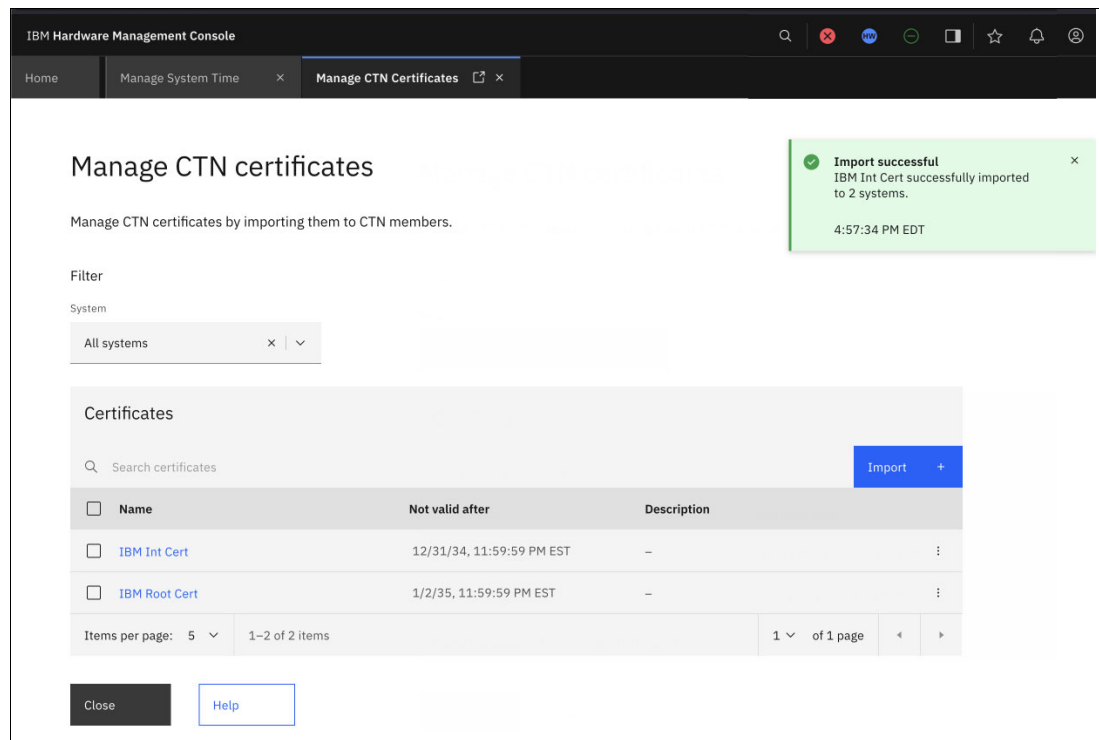
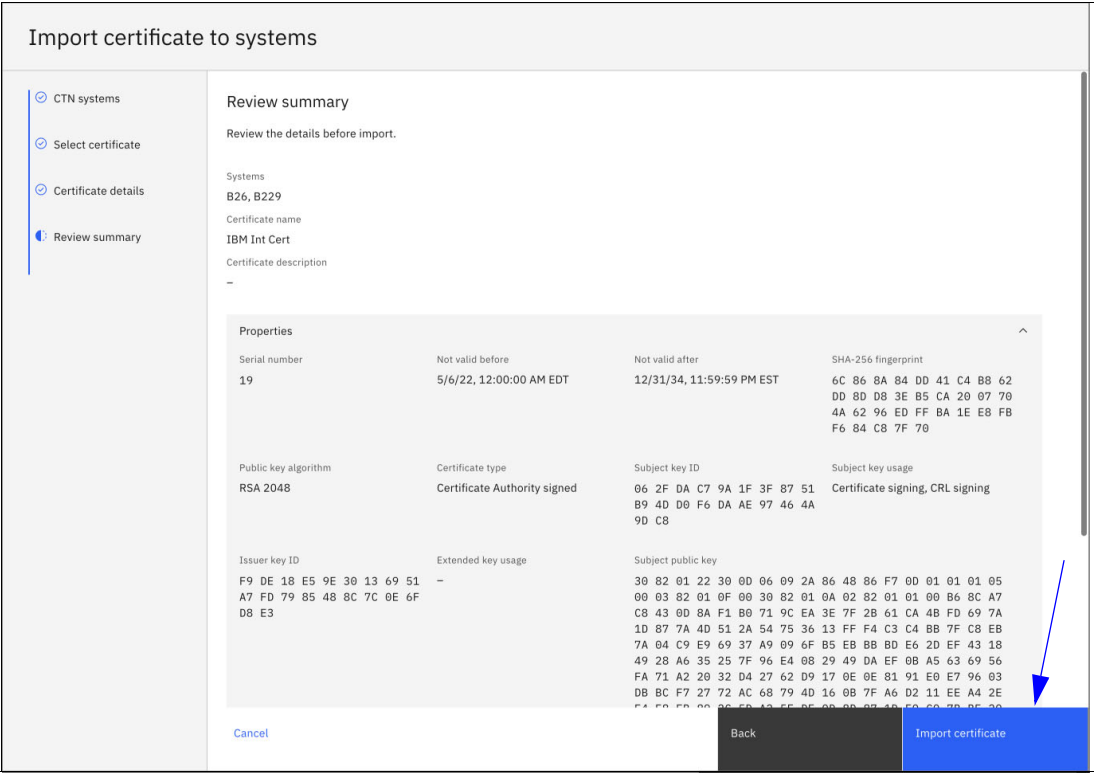

Figure 4-76 Uploaded certificates
Figure 4-77 Import certificates
11.The certificates uploaded to the example systems are shown in Figure 4-76 on page 109. With all certificates uploaded, select each certificate and review (Figure 4-77).